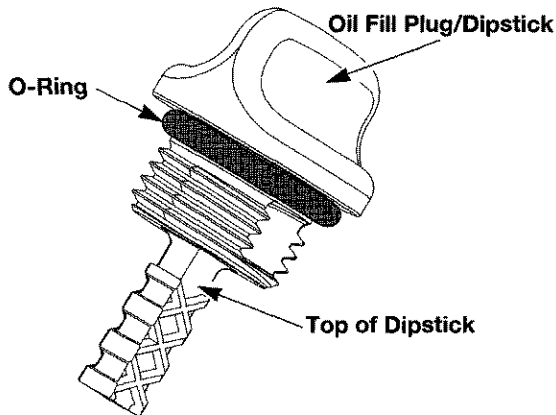

Fig. 22
5. Remove the oil fill plug/dipstick and check oil level. Oil should be up to the top of the dipstick (Fig. 22).